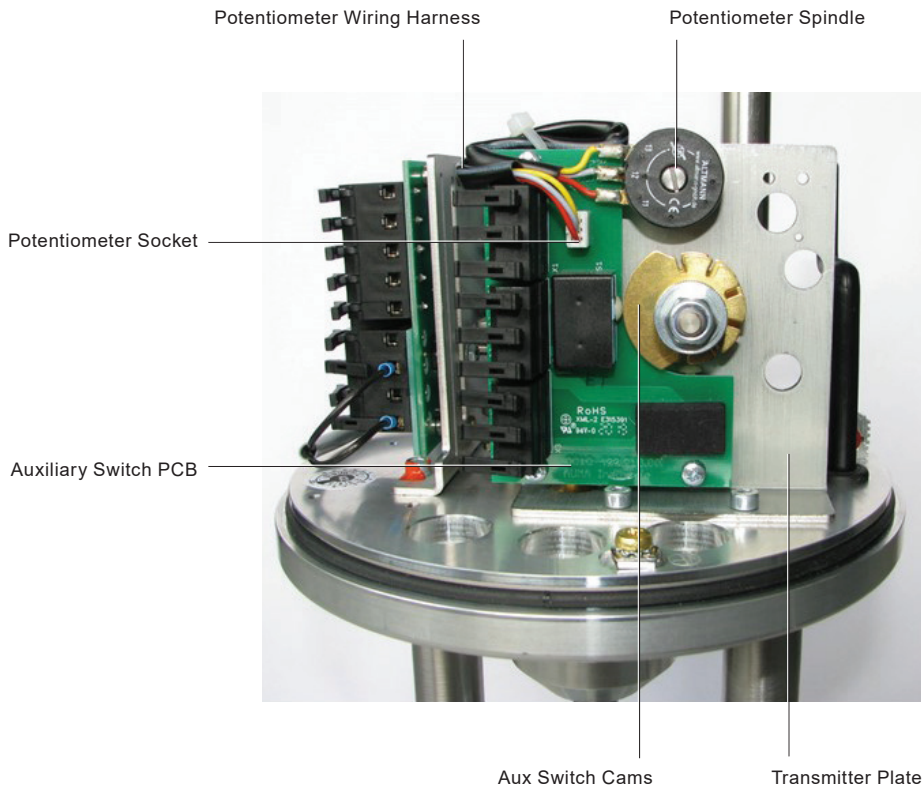

Fig. 11 Potentiometer Installation and Adjustment (1-6 kN)
- Refer to Fig. 11 Potentiometer Installation and Adjustment (1 – 6 kN) for product orientation
- Connect the wiring harness to the potentiometer socket as detailed in Fig. 11 Potentiometer Installation and Adjustment (1-6 kN)